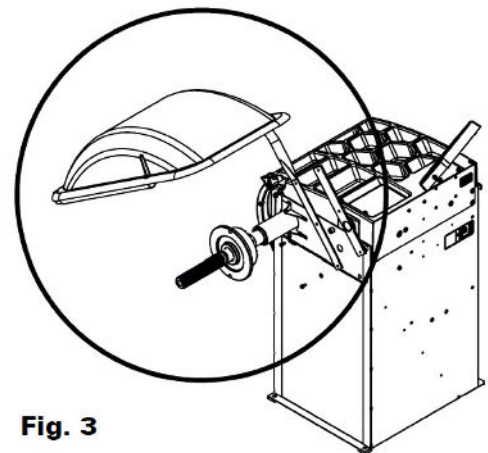

Fig. 3
6. Align the Hood bracket with the balancer arm and secure with three screws. **Fig. 3 & 4**